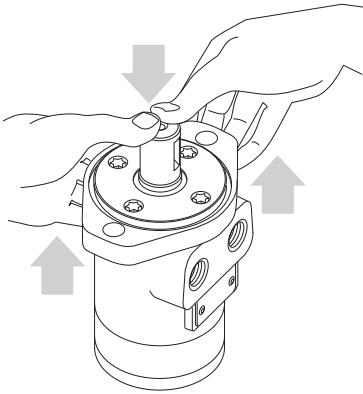

Figure 5-43, Motor Flange Removal
6. Press down on the end of the shaft while lifting the flange (Figure 5-43). Do **not** disturb the shaft.